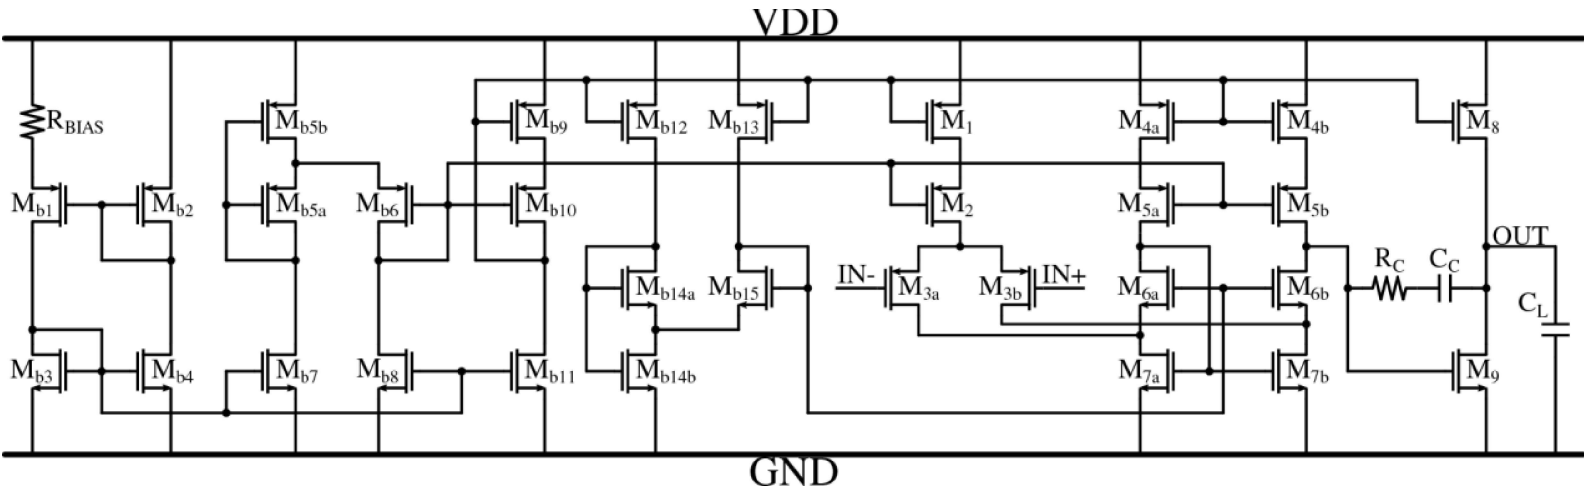

Figure 1 – Amplifier architecture
Your first big project at Triton Industries, Inc. is to redesign a sensor interface using a new technology. The schematic (from a previous project) is shown in **Figure 1**. Due to time-to-market constraints, your manager insists that you do not change the architecture of the circuit. Your focus is to properly size all of the MOSFETs and resistors to meet the following objectives:
- 2) Familiarize yourself with the schematic in **Figure 1**. Analyze how the key blocks interact. Draw simplified half-circuit schematics (differential- and common-mode). This will allow you to identify the main “knobs.”